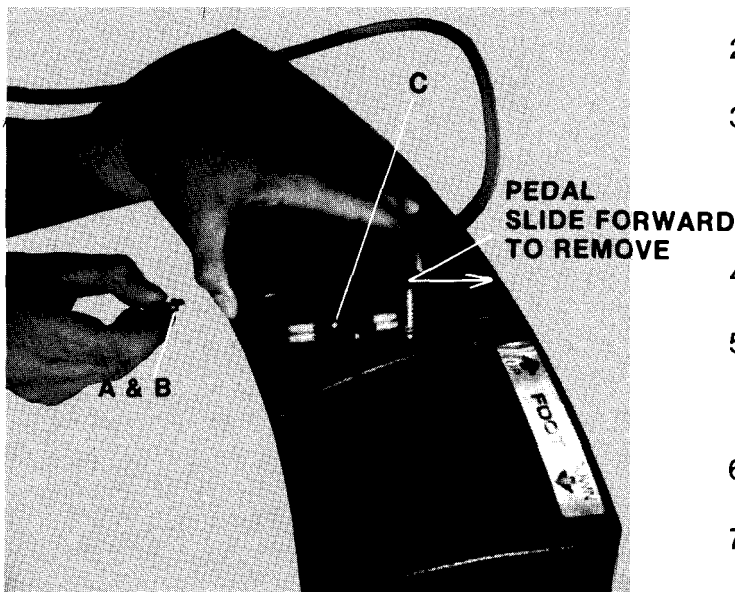

Fig. 39
- 2) Tip switch module out of footswitch casting and remove (1) # 10 Phillips panhead screw from end of foot pedal, Item A, Fig. 39.
- 11) Tip module out of casting and slip foot pedal cover onto pivot on front of switch bracket. Push down back of pedal, align holes, and insert (1) # 10 Phillips headscrew with pivot bushing, Item B Fig. 39, into hole and tighten.
- 3) Remove (2) # 3 slotted head screws and nuts from switch, Item C, Fig. 39. Pull switch from bracket.
- 4) Place switch into switch bracket and insert (2) # 3 slotted head screws into switch. Place (2) # 3 shakeproof lock washers and (2) # 3 nuts onto screws and tighten, Item C, Fig. 39.